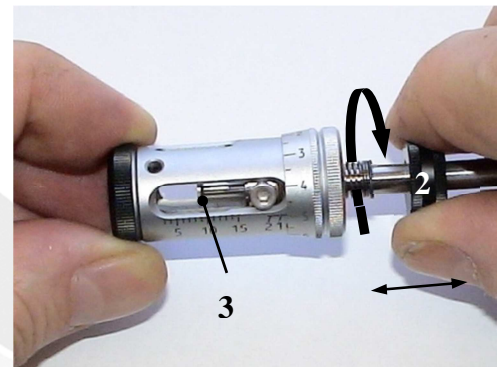

Fig. 3 Length setting
- Release the length setting ring gauge (2) by twisting it in the direction of the arrow. (Fig. 3)
- Move the length setting ring gauge (2) and adjust the stopper (3) to the desired length using the setting. The setting increments are 1 mm per bar. (Fig. 3)
- Fix the length setting ring gauge (2) in position by twisting it in the opposite direction. (Fig. 3)